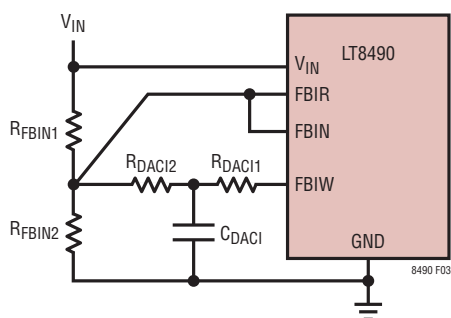
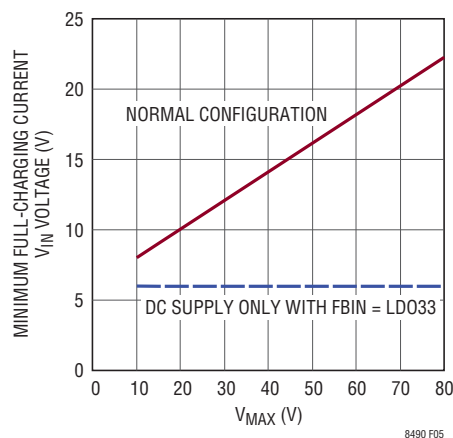

Figure 3. Input Feedback Resistor Network
Figure 5. Minimum Full Charging Current V_{IN} Voltage
The passive component network shown in Figure 3 is required to properly measure and modulate the input supply voltage. This network is required whether the supply is a solar panel or a DC voltage source.
3. **LOW INPUT VOLTAGE EFFECTS:** Figure 5 shows the minimum input voltage, below which the maximum charging current can be reduced. This limit is a function of the input V_{MAX} as discussed previously in the Input Voltage and Modulation Network section. Maximum charging current can reduce as FBIN gets closer to its regulation voltage of 1.205V (typical). This is not normally a significant issue unless 1) the charger is powered by a low voltage DC power supply or 2) a low voltage panel is used with a charger that was configured for a much higher voltage panel. The farther that V_{IN} is below the Normal Configuration line in Figure 5 the more the current can reduce.
When V_{IN} is powered by a DC voltage supply, maintain V_{IN} higher than the Normal Configuration line in Figure 5. Operating V_{IN} below this line can reduce the maximum charging current and the V_{S2} and V_{S3} charging voltages. If V_{IN} is never going to be supplied by a solar panel then FBIN can be disconnected from FBIR (see Figure 3) and reconnected to the LDO33 pin. This allows the charger to operate with V_{IN} as low as 6V with no charging current or voltage reduction.
When using a solar panel supply, choose a panel having a maximum open-circuit voltage (V_{OC}) close to V_{MAX} (discussed in the prior Input Voltage Sensing and Modulation Network section). The maximum power point voltage is typically well above the voltage limit in Figure 5 and current limiting is rarely an issue. Avoid using solar panels that operate dramatically below V_{MAX} , particularly if the maximum power point voltage is typically below the Normal Configuration line in Figure 5.
MINIMUM INPUT VOLTAGE REQUIREMENT: When power supply mode is enabled, the LT8490 will operate from an input as low as 6V. However, charging current capability can become limited at low input voltages depending on the V_{MAX} voltage used to select the input voltage sensing network (see previous Input Voltage Sensing and Modulation Network section). Figure 5 shows the minimum input supply voltage required, below which charging current can become less than the maximum output current limit. If the LT8490 is powered by a DC supply only, the minimum input voltage shown in Figure 5 can be reduced to 6V by